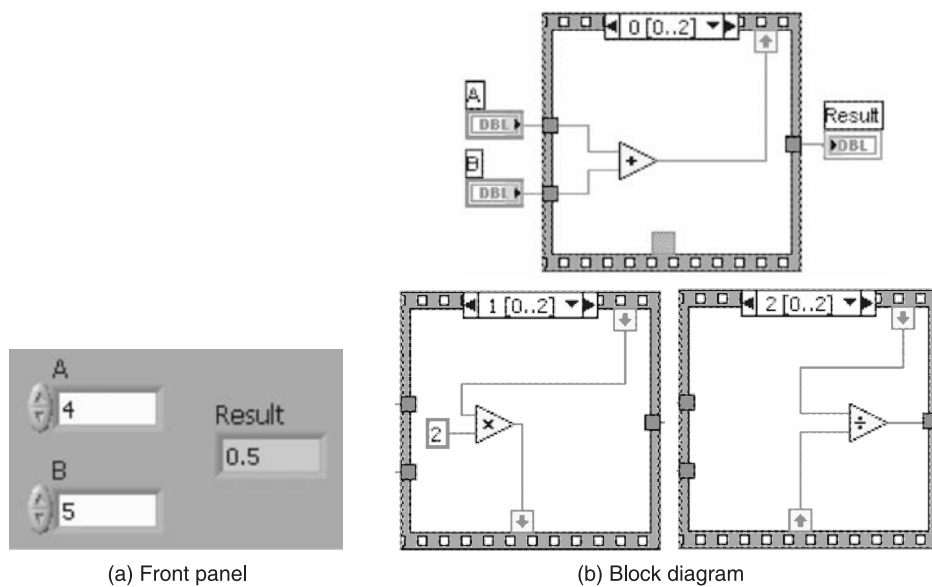

Figure P8.11
**Solution** To execute the expression using a stacked sequence structure, create the front panel and the block diagram as shown in Figures P8.11(a) and P8.11(b).